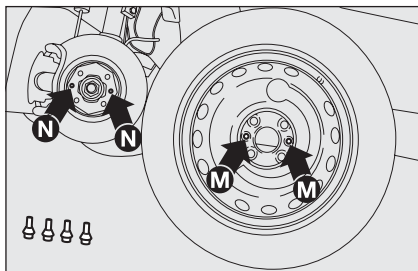

fig. 14
- fit the space saver spare wheel making the holes **M**-fig. 14 coincide with the corresponding centering pins **N**;